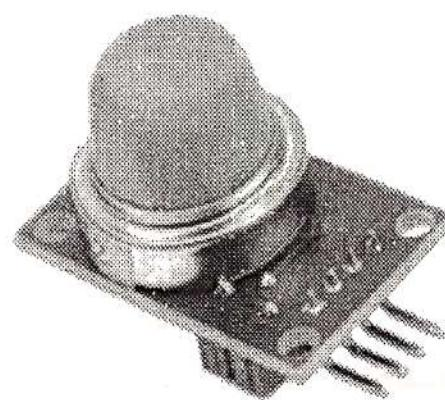

Fig. 2.3.1 : MQ-02 gas sensor
- Some modules have a built-in variable resistor to adjust the sensitivity of the sensor. Fig. 2.3.1 shows MQ-02 gas sensor.